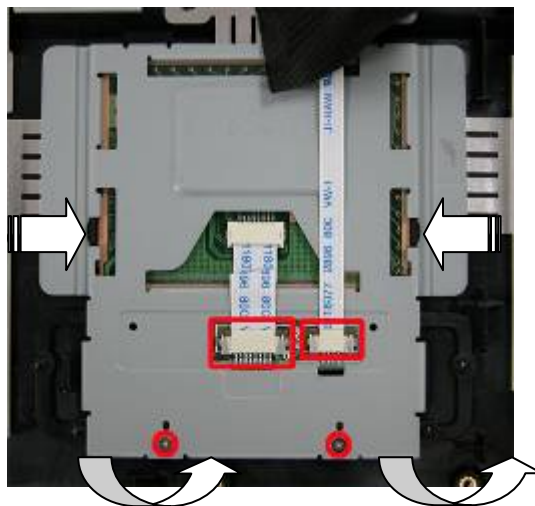

Fig. 29 Touch Pad
1. Unscrew the screws on the Top Cover as shown in Fig. 29